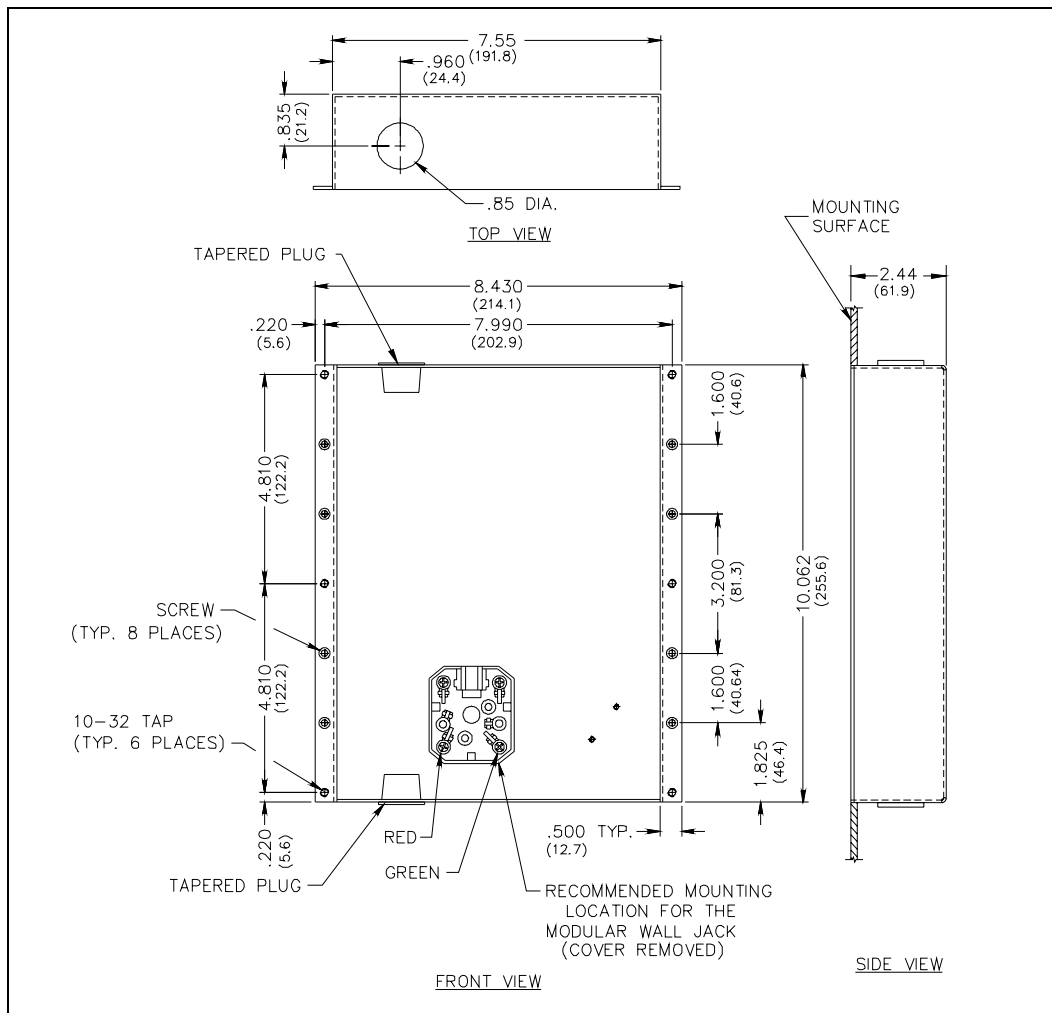

Figure 11. Model 276-003 Mounting Details
1. When mounting in a GAI-Tronics Model 234 Series Stanchion or for flush-mount installations, the supplied back box must be used to mount the Model 276-003 Telephone. Mount the back box to the structure using the appropriate hardware. Refer to Figure 11 cutout dimensions.